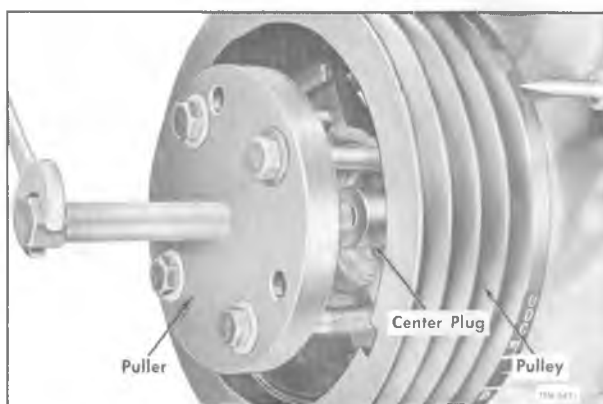

Figure 35—Removing Crankshaft Pulley or Hub with Special Puller
On some models the crankshaft pulley is not readily accessible unless the radiator core is first removed. The special tool typically illustrated in figure 35 must be used to start the pulley off the crankshaft when a retaining cone is used.
3. Assemble puller and center plug in manner shown in figure 35, then turn puller screw to remove pulley from crankshaft.